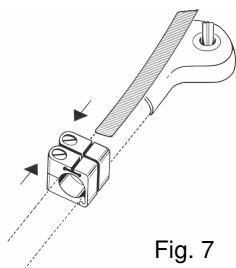
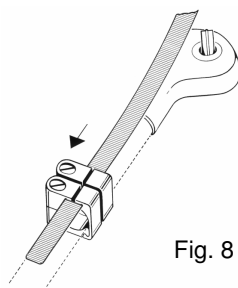

Fig. 7
Fig. 8
1. Push the two fixation clamps against each other (Fig. 7). Insert the retaining spring in accordance with the guide grooves on both fixation clamps and push through (Fig. 8).